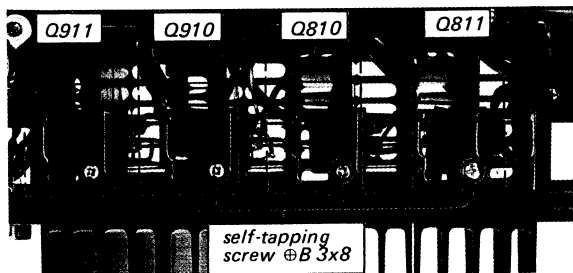

Fig. 2-14 Top heat sink bracket removal
2. Remove the four self-tapping screws ( $\text{Ø} B 3 \times 8$ ) securing top heat sink bracket as shown in Fig. 2-14.